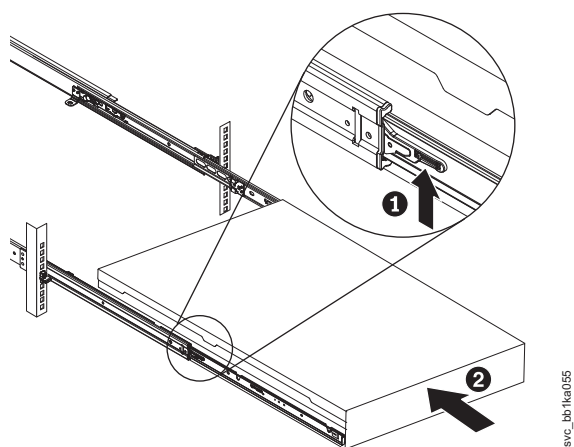

Figure 63. Raising the locking levers of the slide rails of the rack
8. Lift the locking levers (**1** in Figure 63) on the slide rails and push the server **2** all the way into the rack until it clicks into place.